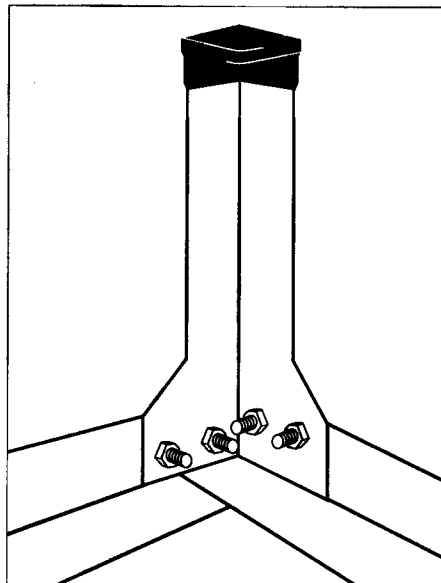

Figure 1
1. Follow Figure 1 to assemble the stand legs. The legs go inside the stand frame. The screw holes will not line up unless you follow the illustration.